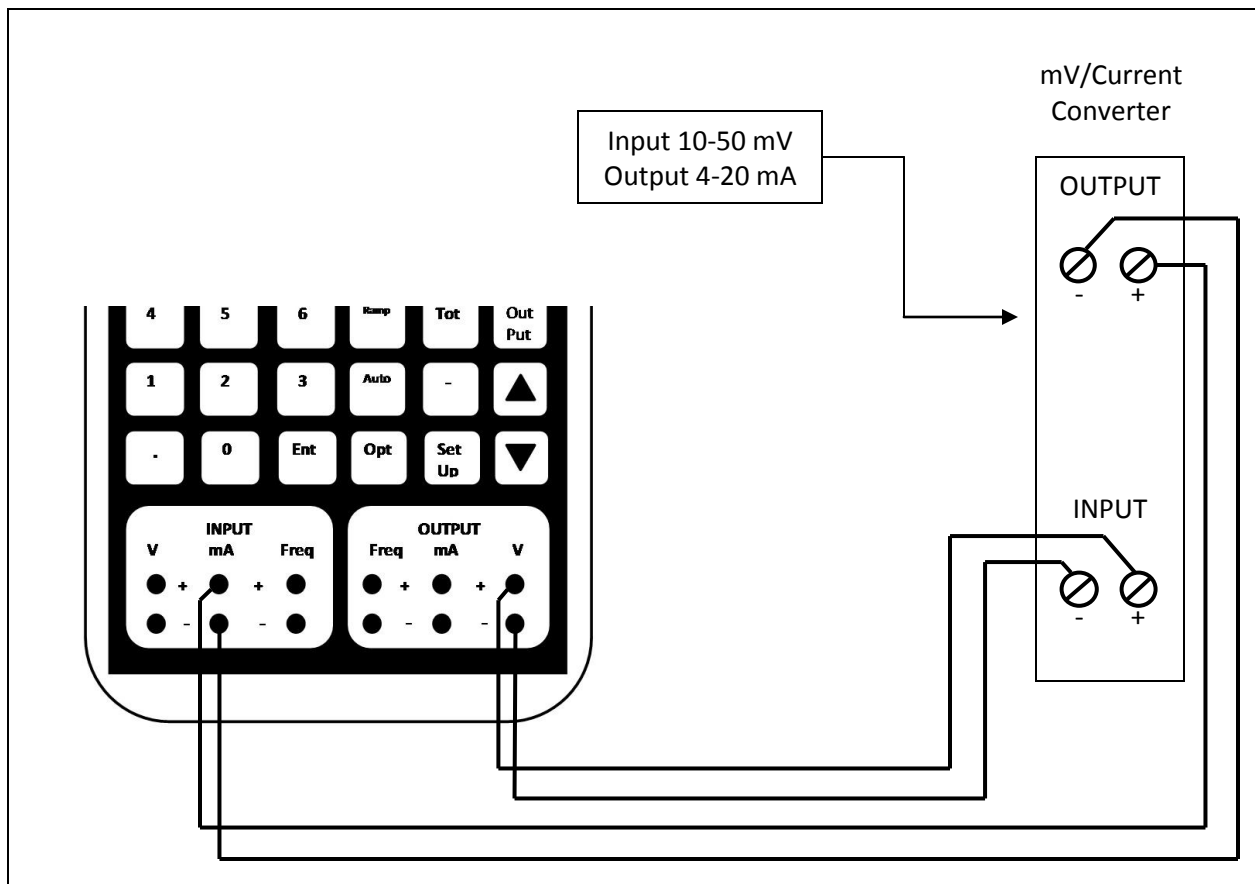

Figure 3
1. Connect as shown in Figure 3.